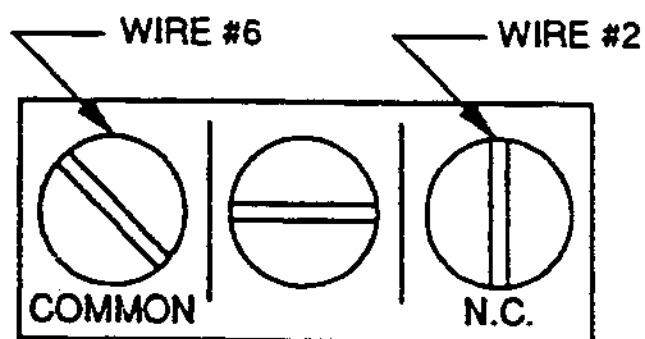

Fig. 1
1. Horizontally Mounted: Wires connected as shown (Fig. 1).